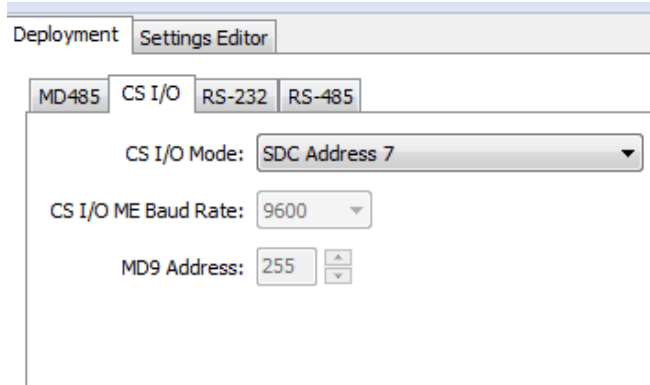

FIGURE 8-14. MD485 CS I/O tab
5. Click the **CS I/O** port tab. Set the mode based on the type of datalogger being used. Below shows the configuration for a CR1000 with SDC7 for the address (FIGURE 8-14).